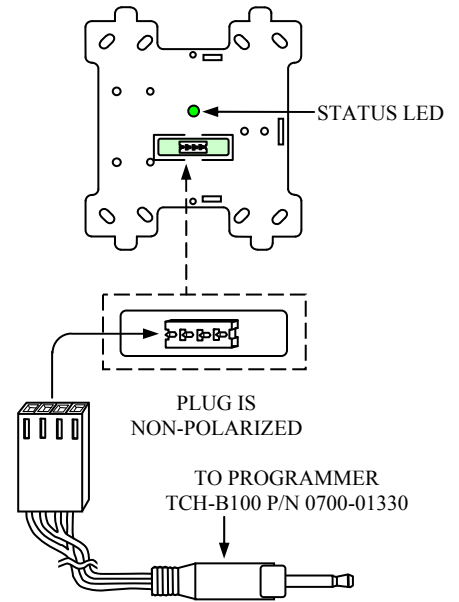

FIGURE 1.
- 3) The address must be set on the CLIM before the cover plate is attached (see Fig. 1)